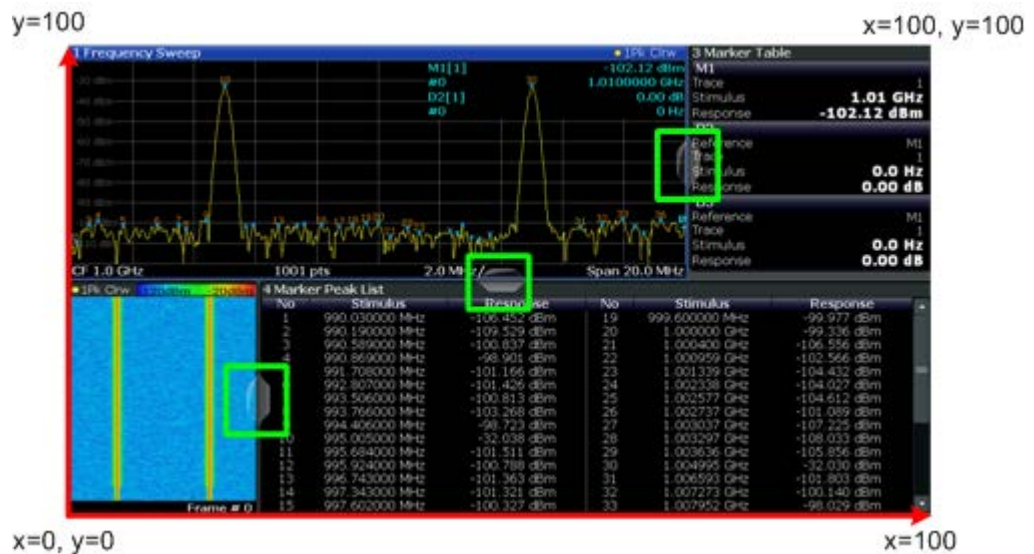

Fig. 9-1: SmartGrid coordinates for remote control of the splitters
- <Position> New vertical or horizontal position of the splitter as a fraction of the screen area (without channel and status bar and softkey menu). The point of origin ($x = 0$, $y = 0$) is in the lower left corner of the screen. The end point ($x = 100$, $y = 100$) is in the upper right corner of the screen. (See figure 9-1.)